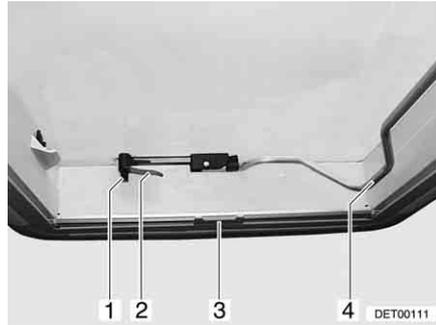
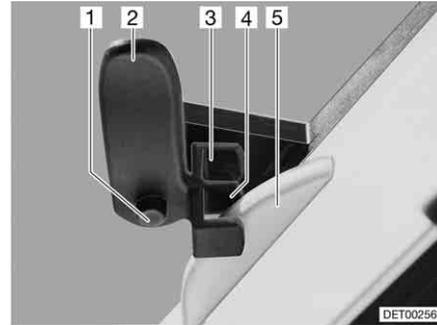

Fig. 72 Heki skylight, closed
Fig. 73 Heki skylight in ventilation position 1
- Press the safety knob (Fig. 72,1) and turn the catch lever (Fig. 72,2) one quarter turn inward.
- Pull the bar (Fig. 72,4) downwards out of the latch.
- Turn the catch lever (Fig. 72,2 and Fig. 73,2) one quarter turn. The hook of the roof lock (Fig. 73,5) must engage in the upper locking fork (Fig. 73,3).
- Press the safety knob (Fig. 73,1) and turn the catch lever (Fig. 73,2) back. The hook of the roof lock (Fig. 73,5) must engage in the lower locking fork (Fig. 73,4).